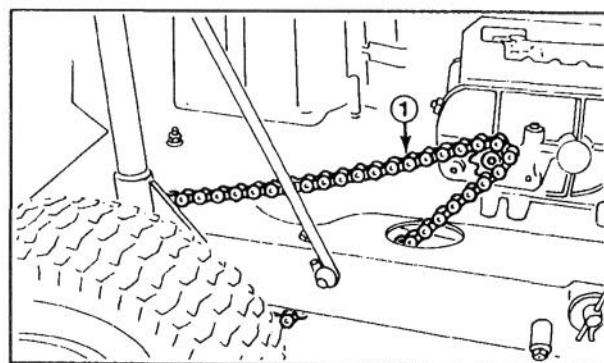
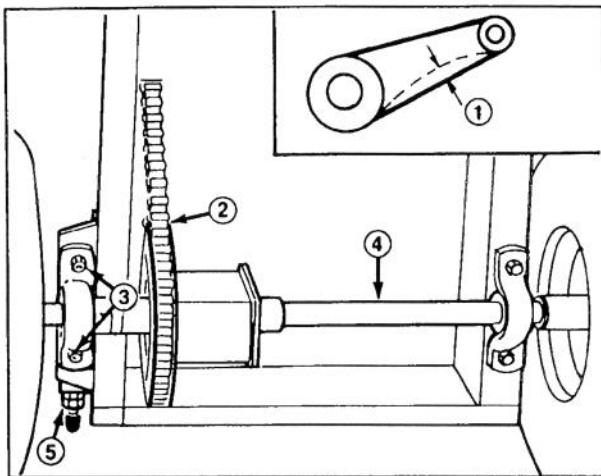

Figure 24
Figure 25
2. Check deflection of drive chain by lifting up and pressing down on chain with moderate pressure at mid span (Fig. 24). There should be 1/8 of an inch (3 mm) total deflection (Fig. 25). If deflection is not as specified, an adjustment is required—steps 3-13.
7. Loosen four flange nuts securing pillow blocks w/differential axle to the rider frame (Fig. 25).
8. Loosen rear jamnut on chain tensioner (Fig. 25).
11. Since differential axle must be parallel to rear of chassis, measure distance from center of pillow blocks to rear of chassis (Fig. 25). Difference between the two measurements must not exceed 1/8 inch. If difference exceeds 1/8 inch, differential axle is not parallel with chassis; therefore it must be readjusted.